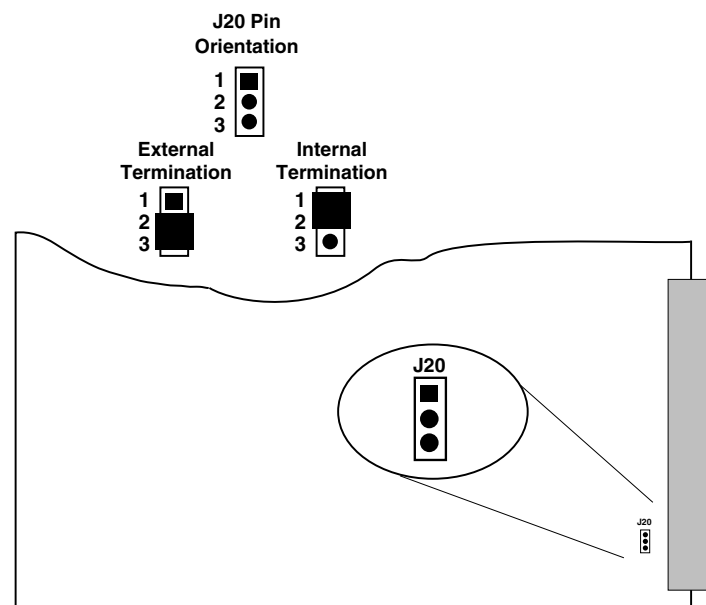

Figure 2-53. Combined Video/Audio Input Module's 75 Ohm Termination Jumper Location
- Or, you may set the termination jumper (J20) on the one and two position on the Video/Audio Input module for internal termination. Refer to Figure 2-53 for the J20 jumper location.